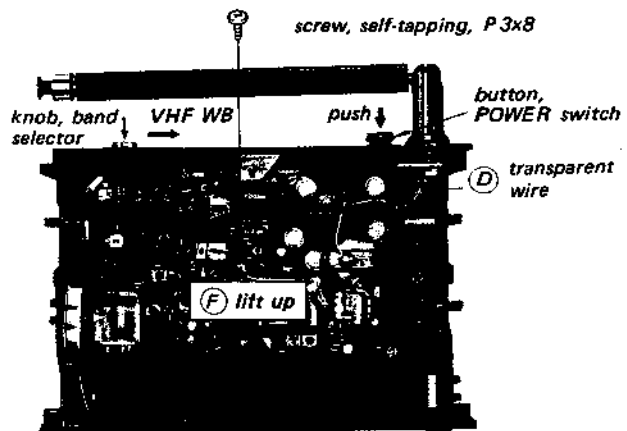

Fig. 2-4.
2. Set the band selector to VHF WB (VHF Weather Band) position as shown in Fig. 2-4.
3. Push the POWER switch button as shown in Fig. 2-4.
4. Unsolder the transparent wire labeled (D) in Fig. 2-4.
5. Remove the screw labeled (E) in Fig. 2-4.